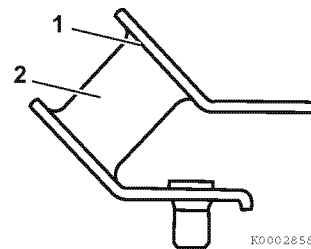

Figure 46
1. Check for separation at rubber baked portion (1, **Figure 46**).
2. Check the damper rubber material (2, **Figure 46**) for cracks and deformation. Replace the damper if cracked or deformed.